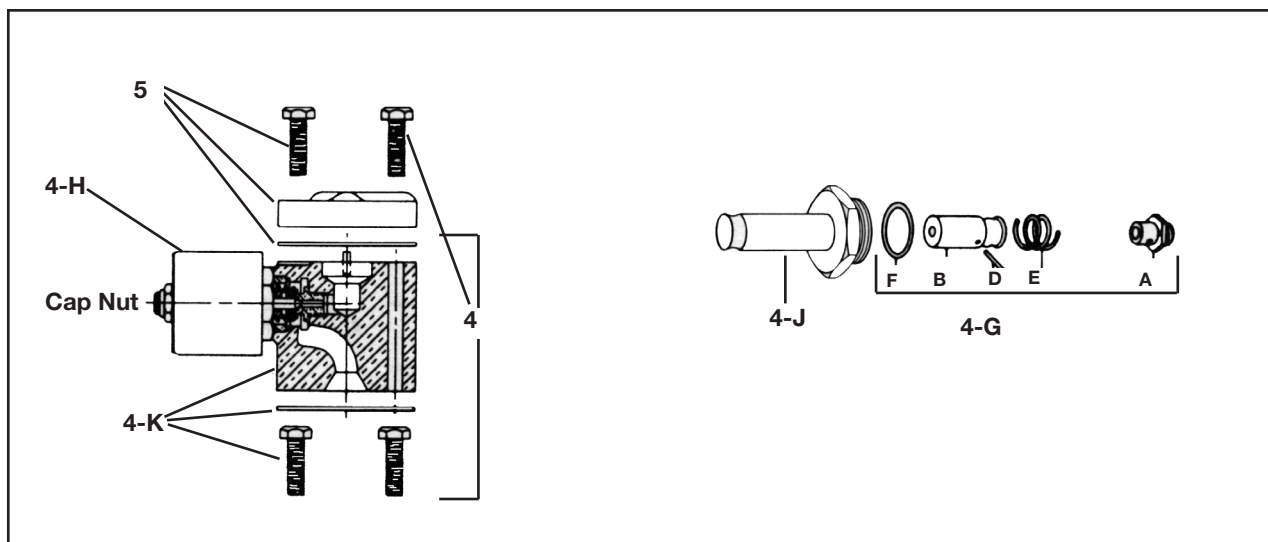

Fig 6
4. The solenoid enclosure can be rotated to facilitate wiring by loosening the cap nut (See Fig. 6).
Electric Pilot, Inspection of Solenoid and Internal Parts (Refer to Fig.6)